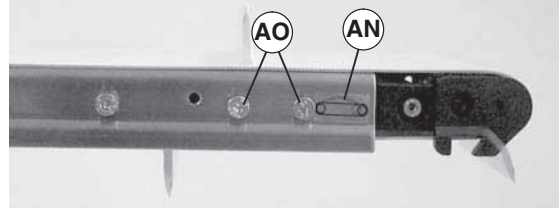
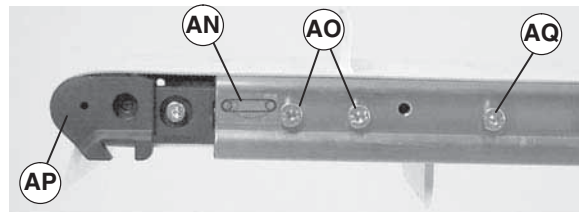
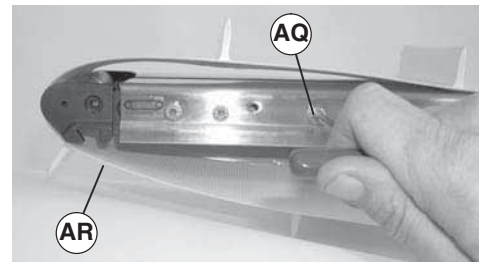
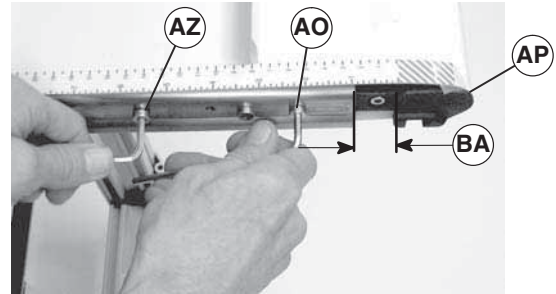

Figure 21
Figure 22
Figure 23
Figure 29
3. On tension end of the conveyor identified with a  label (Figure 21, item AN) and (Figure 22, item AN), loosen four M6 socket head cap screws (AO).
4. Retract idler spindle assembly (Figure 22, item AP) by pushing in on it or by turning M6 pinion screw (Figure 22, item AQ) and (Figure 23, item AQ) clockwise.
5. Remove conveyor belt (Figure 23, item AR).
4. Retract idler spindle assembly (Figure 22, item AP) by pushing it in or by turning M6 pinion screw (Figure 22, item AQ) and (Figure 23, item AQ) clockwise.
4. On tension end of the conveyor identified with a  label (Figure 21, item AN) and (Figure 22, item AN), loosen four M6 socket head cap screws (AO).
5. Retract idler spindle assembly (Figure 22, item AP) by pushing it in or by turning M6 pinion screw (Figure 22, item AQ) and (Figure 23, item AQ) clockwise.
6. Remove conveyor belt (Figure 23, item AR).
2. Slide belt (Figure 23, item AR) onto the conveyor frame assembly.
2. Slide belt (Figure 23, item AR) onto conveyor frame assembly.
- Slide belt (Figure 23, item AR) onto the conveyor frame assembly.
- On tension end of the conveyor identified with a label (Figure 21, item AN) and (Figure 22, item AN), loosen four M6 low head screws (AO).
<p>The M6 low head screw (Figure 29, item AZ), which is used for extending the idler spindle assembly to tension the belt, has a yellow colored head.</p> <p>Do not exceed a torque of 25 in-lb (2.8 Nm) for 2" to 12" (44 mm to 305 mm) wide conveyors or 40 in-lb (4.5 Nm) for an 18" (457 mm) wide conveyor on this screw. Over-tensioning the conveyor belt could cause excessive pulley bearing load and early failure.</p>
- For an existing belt, extend idler spindle assembly (Figure 29, item AP) by turning M6 low head screw (AZ) clockwise to sufficiently tension belt to handle conveyor load.
- For a new belt, extend idler spindle assembly (Figure 29, item AP) 1" (25 mm) (BA) by turning M6 low head screw (AZ) clockwise.
- Tighten four M6 low head screws (Figure 21, item AO), (Figure 22, item AO) and (Figure 29, item AO) to 40 in-lb (4.5 Nm) to secure idler spindle assembly (AP).